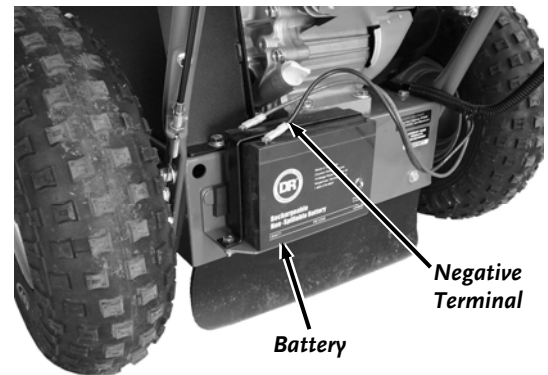

Figure 35
1. Connect the Black Negative Terminal onto the negative Battery Lug (**Figure 35**).